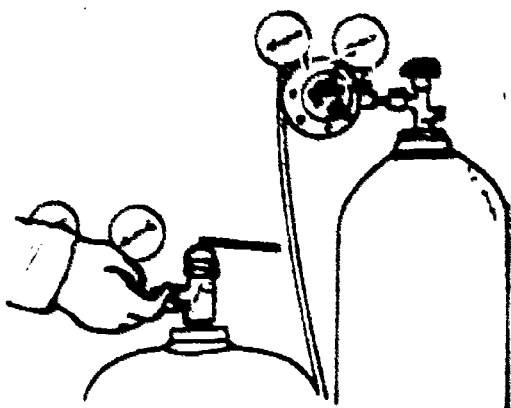

Figure 14. Checking for Leaks
2. Test all joints for leaks with soap and water (see figure 14).